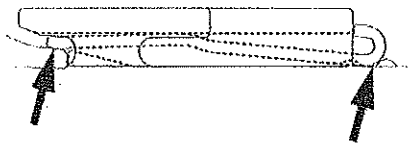

Fig. 53-Correct position of IFAST spring
- Check the position of the spring. The toe of the iFAST spring has to be on the stock rail foot, the rear end needs to be secured by the embossment, Fig. 53.